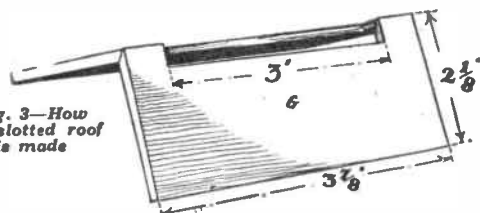

Fig. 3—How the slotted roof is made
The top edges of the sides (D) must be chamfered where they meet the roof slopes (G). The completed roof is shown in Fig. 3, but this must not be attached to the box until after the latter has had the central partition slid up through the box and the partition then glued and screwed to the base.